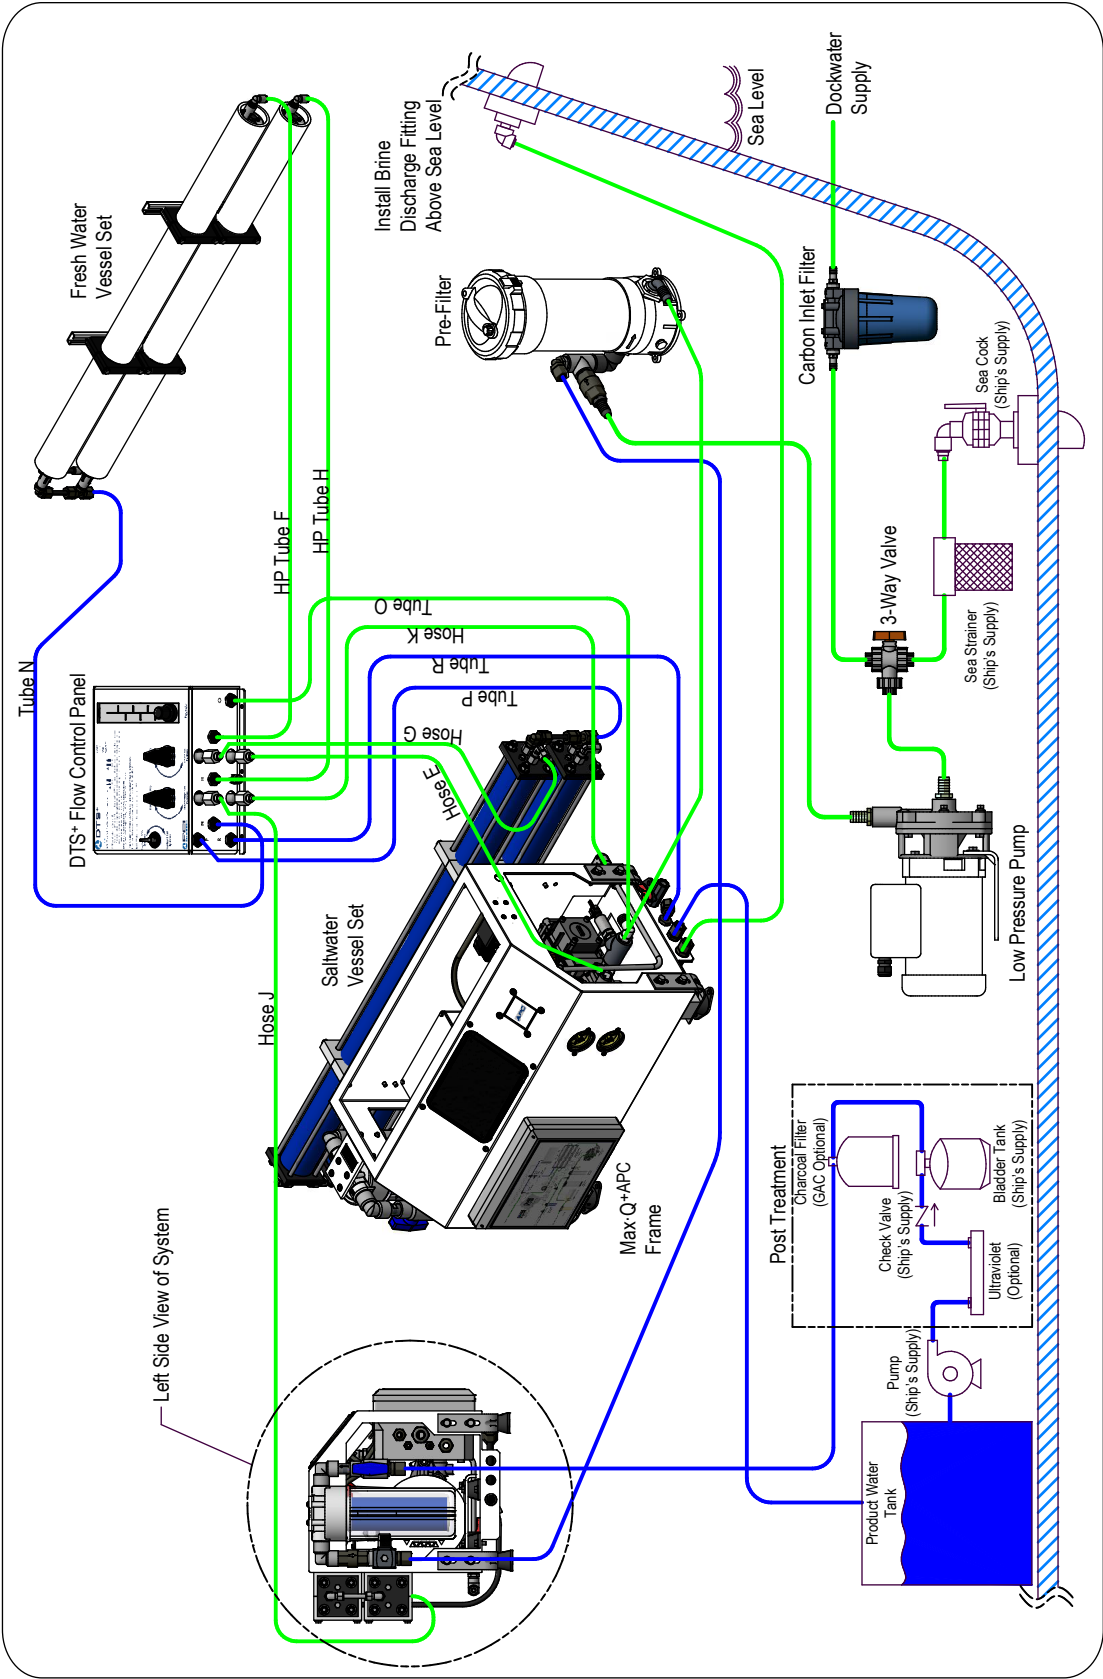

Figure 20: Max-Q+APC Frame 1,275 GPD with DTS+
- "Figure 20: Max•Q+APC Frame 1,275 GPD with DTS+" on page 42